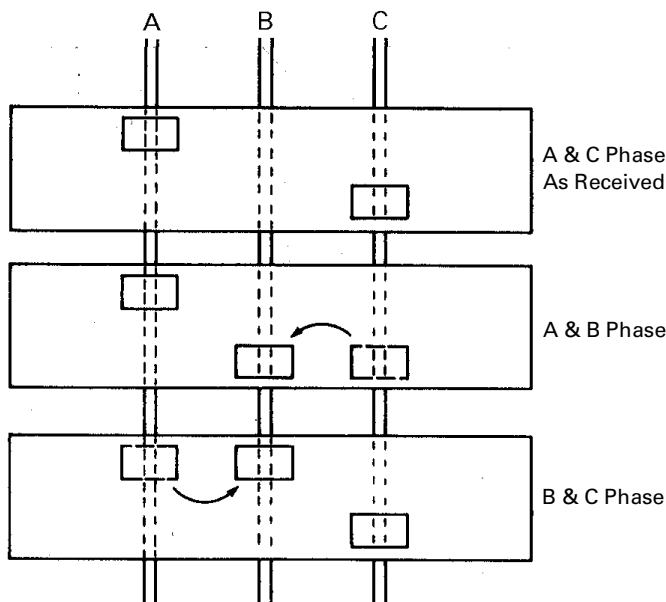

Figure 1. Repositioning the bus clip to balance the load.
- 1. Phase balancing for two-pole devices in three-phase systems.** To balance the panelboard load, remove the screws on the appropriate bus clip, reposition the bus clip as shown in Figure 1, then install and tighten the screws to 27–32 in-lb.